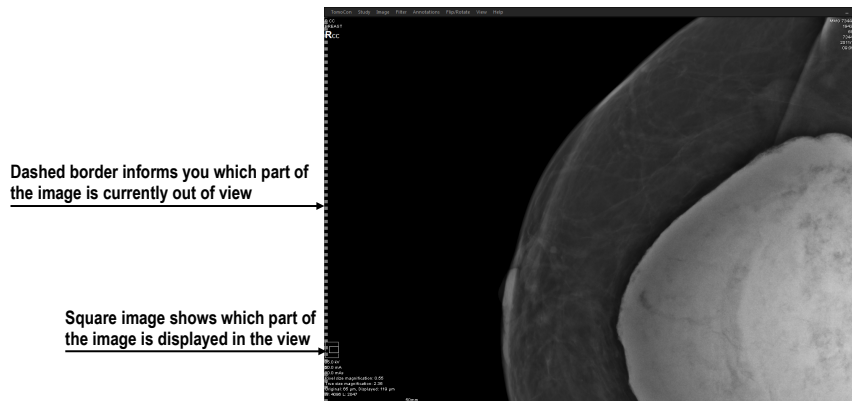

Figure 77 – Active checkered border
- The **Show checkered border when the entire image is not displayed** check box – if checked and the image in the mammography view is scaled in such a way that parts of the image is out of the view, the image is partially bordered with a dashed line to indicate which part of the image is displayed outside of the view (see Figure 77).